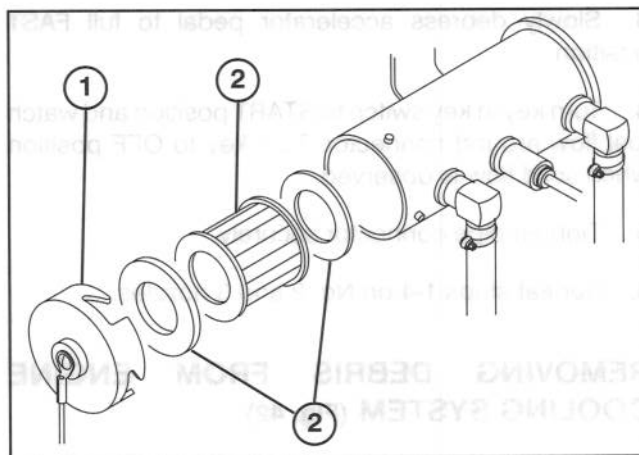

Figure 40
- Place a drain pan under fuel pump and remove cover from fuel pump (Fig. 40). Take care not to damage wire while removing cover.
- Pull filter out of pump body (Fig. 40).
- Clean cover of any residue (Fig. 40), insert filter into body and install cover.